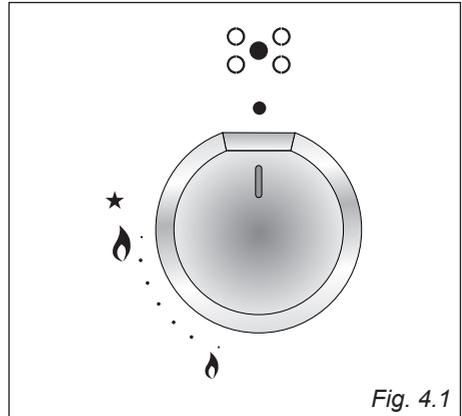
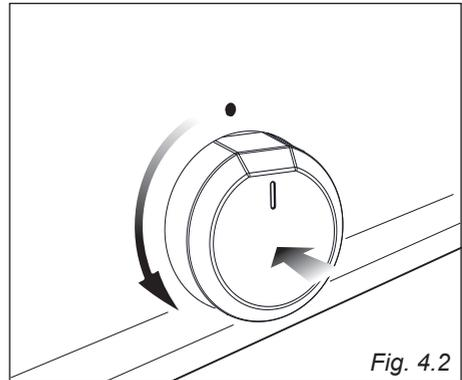

Fig. 4.1
Fig. 4.2
Gas flow to the burners is adjusted by turning the knobs (illustrated in fig. 4.1) which control the safety valves.
1. Press in the corresponding knob and turn counter-clockwise (fig. 4.2) to the ★ full flame position marked by the  symbol (fig. 4.1); hold the knob in until the flame has been lit.